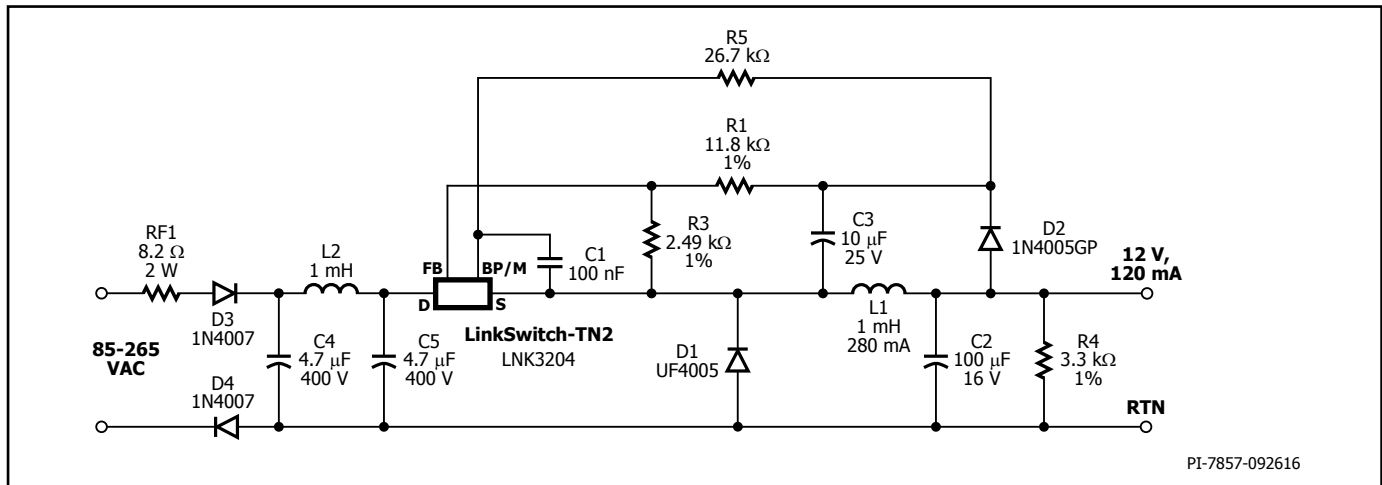

Figure 8. Universal Input, 12 V, 120 mA Constant Voltage Power Supply using LinkSwitch-TN2.
The circuit shown in Figure 8 is a typical implementation of a 12 V, 120 mA non-isolated power supply used in appliance control such as rice cookers, dishwashers or other white goods. This circuit may also be applicable to other applications such as night-lights, LED drivers, electricity meters, and residential heating controllers, where a non-isolated supply is acceptable.
Regulation is maintained by skipping switching cycles. As the output voltage rises, the current into the FEEDBACK pin will rise. If this exceeds I_{FB} then subsequent cycles will be skipped until the current reduces below I_{FB} . Thus, as the output load is reduced, more cycles will be skipped and if the load increases, fewer cycles are skipped. To provide overload protection if no cycles are skipped during a 50 ms period, LinkSwitch-TN2 will enter auto-restart, limiting the average output power to approximately 3% of the maximum overload power. Due to tracking errors between the output voltage and the voltage across C3 at light load or no-load, a small pre-load may be required (R4). For the design in Figure 8, if regulation to zero load is required, then this value should be reduced to 2.4 k Ω .
Referring to Figure 8, the following considerations may be helpful in selecting components for a LinkSwitch-TN2 design.
Figures 9a, 9b and 9c are printed circuit board layout design examples for the circuit schematic shown in Figure 8. The loop formed between the LinkSwitch-TN2, inductor (L1), freewheeling diode (D1), and output capacitor (C2) should be kept as small as possible. The BYPASS pin capacitor C1 should be located physically close to the SOURCE (S) and BYPASS (BP) pins. To minimize direct coupling from switching nodes, the LinkSwitch-TN2 should be placed away from AC input lines. It may be advantageous to place capacitors C4 and C5 in-between LinkSwitch-TN2 and the AC input. The second rectifier diode D4 is optional, but may be included for better EMI performance and higher line surge withstand capability.